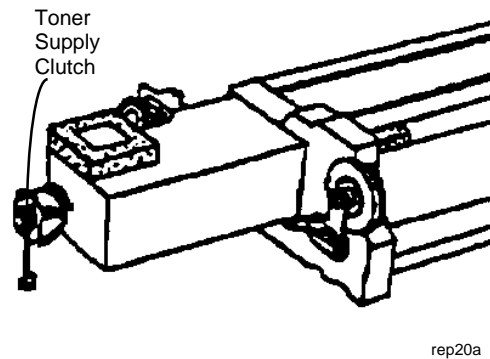

Figure 1. Removing the Toner Supply Clutch
3. (Figure 1): Loosen the set screw and remove the Toner Supply Clutch.